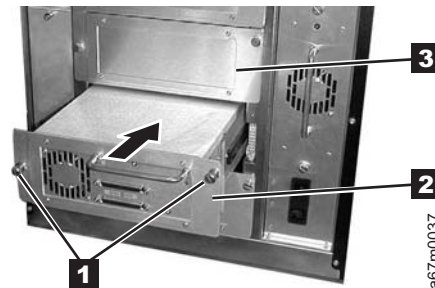

Figure 14-21. Installing a drive sled
- b. Slide the drive sled **2** into position and tighten the two captive thumbscrews **1** (see Figure 14-21).